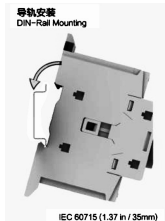

Figure 26 Guide rail installation sketch
7.2.2 Guide rail installation: confirm that the switch is off → the guide rail is fixed in the cabinet → install the switch as shown in Figure 26